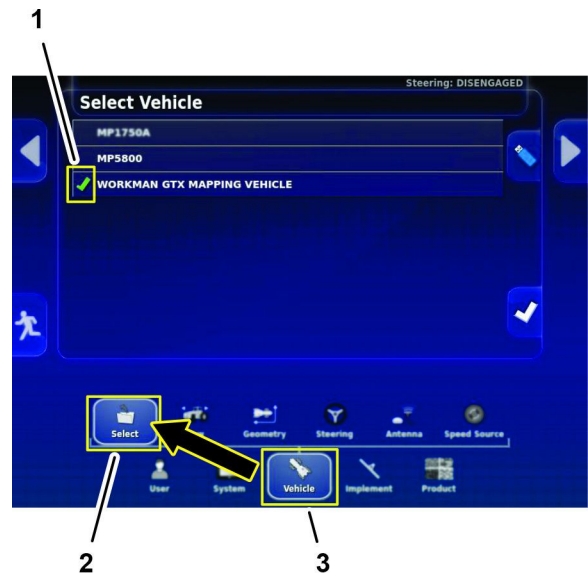

Figure 202
1. On the setup screen, press the VEHICLE icon and the SELECT icon (Figure 202).